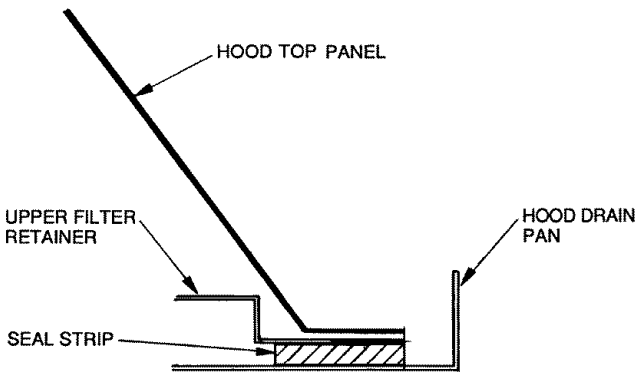

Fig. 18 — Seal Strip Location
- Attach seal strip to upper filter retainer. See Fig. 18.